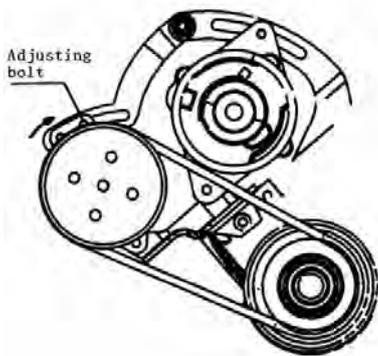

Fig.18-22
2) Removal of the drive belt (shown in figure 18-22)